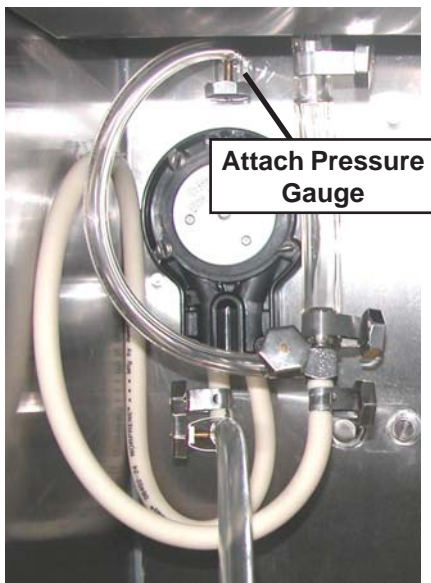

Figure 6-10 Attaching Gauge to Pump
3. Connect a gauge between the 1/4" ID tubing and pump outlet in the cab (Refer to Figure 6-10).